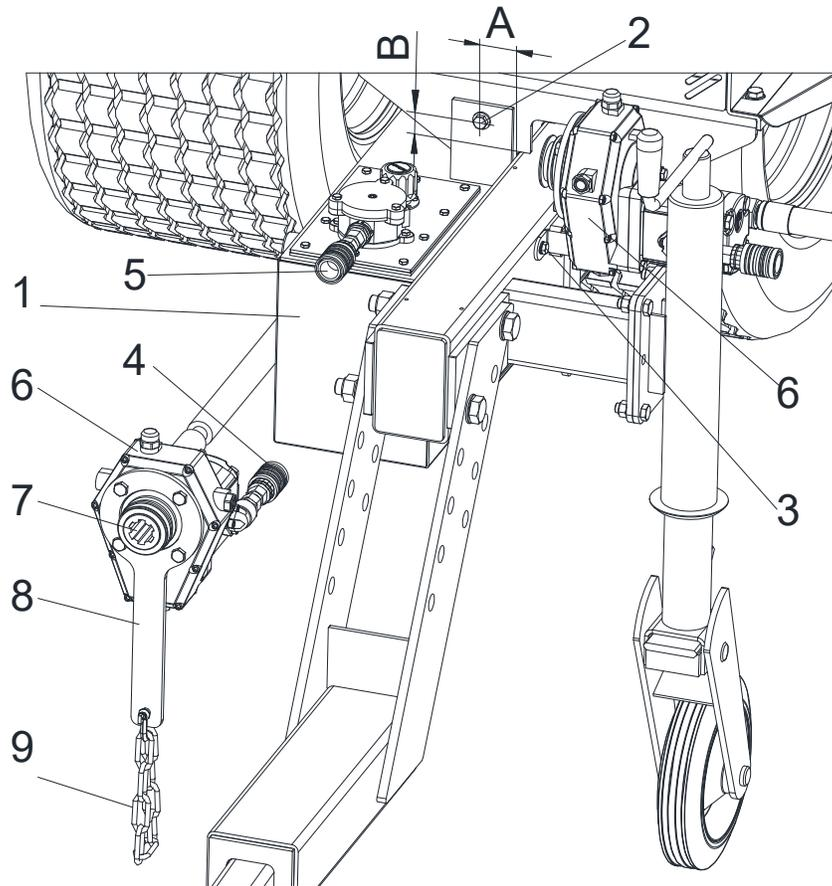

Fig. 14 Attachment of the external oil supply unit
1. To attach the hydraulic tank (Fig. 14/1), the belt support is drilled out with a diameter of 13.5 mm with measurement A (Fig. 14/A) 45 mm (1,77") and measurement B (Fig. 14/B) 35 mm (1,38") and screwed tight with a hexagon head screw M12x130 and lock nut M12 (Fig. 14/2).
2. For start-up, the pressure line of the machine is connected to the free Connection (Fig. 14/4) of the slip-on pump (Fig. 14/6) The return line of the machine (with non-return valve) is connected to the free connection (Fig. 14/5) on the hydraulic tank (Fig. 14/1)
3. The PTO gearbox (Fig. 14/7) with slip-on pump (Fig. 14/6) is attached to the connecting shaft of the tractor and secured against rotation with the torque arm (Fig. 14/8) and safety chain (Fig. 14/9).
4. The holder (Fig. 14/3) can be drilled out and fastened to the drawbar tube with M8 so that the PTO gearbox with slip-on pump (Fig. 14/6+7) can be fixed when the machine is parked.